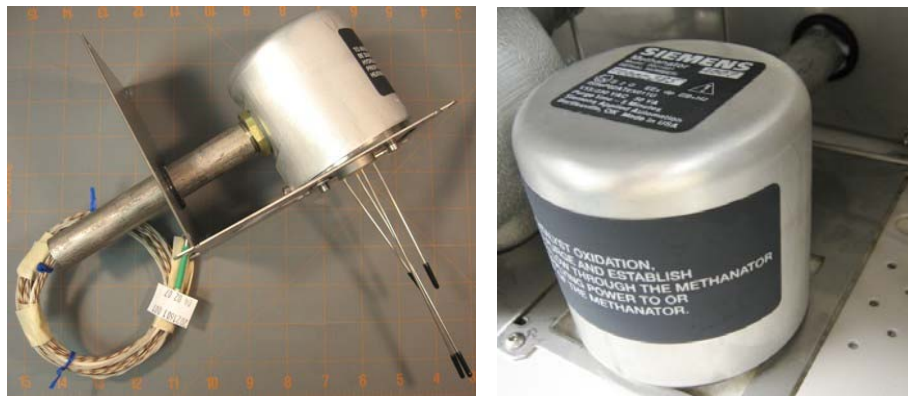

Figure 2-52: Methanator
The methanator (figure 2-52) is used with a Flame Ionization Detector (FID) when it is necessary to detect carbon monoxide (CO) or carbon dioxide (CO₂). In the methanator CO and CO₂ are chemically changed to methane using excess hydrogen and a catalytic reaction. The concentration of methane, which can be detected using an FID, is proportional to the concentration of CO and CO₂. In this manner, it is possible to detect CO and CO₂ using an FID.